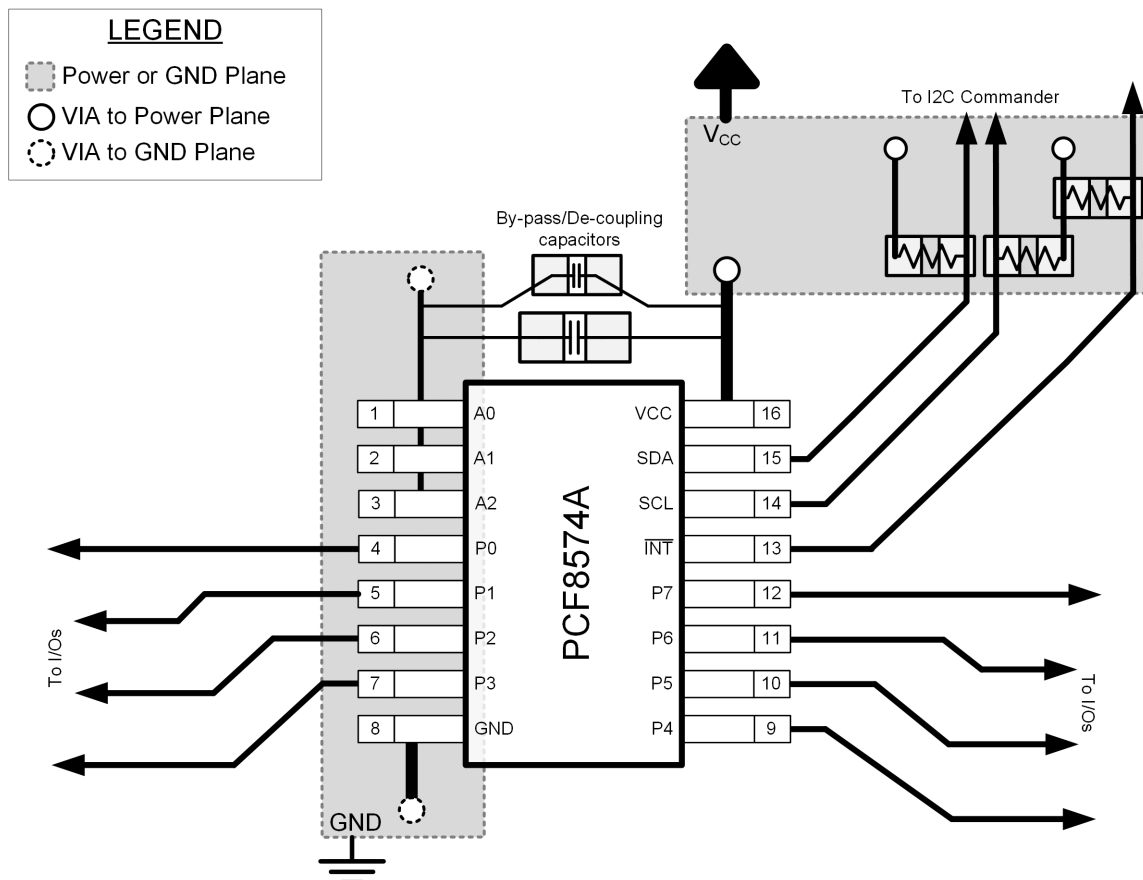

图 11-1. Layout Example for PCF8574A
When the I/Os are used to control LEDs, normally they are connected to V_{CC} through a resistor as shown in Figure 11-1. For a P-port configured as an input, I_{CC} increases as V_I becomes lower than V_{CC} . The LED is a diode, with threshold voltage V_T , and when a P-port is configured as an input the LED will be off but V_I is a V_T drop below V_{CC} .
In all PCB layouts, it is a best practice to avoid right angles in signal traces, to fan out signal traces away from each other upon leaving the vicinity of an integrated circuit (IC), and to use thicker trace widths to carry higher amounts of current that commonly pass through power and ground traces. By-pass and de-coupling capacitors are commonly used to control the voltage on the V_{CC} pin, using a larger capacitor to provide additional power in the event of a short power supply glitch and a smaller capacitor to filter out high-frequency ripple. These capacitors should be placed as close to the PCF8574A device as possible. These best practices are shown in Figure 11-1.
For the layout example provided in Figure 11-1, it would be possible to fabricate a PCB with only 2 layers by using the top layer for signal routing and the bottom layer as a split plane for power (V_{CC}) and ground (GND). However, a 4 layer board is preferable for boards with higher density signal routing. On a 4 layer PCB, it is common to route signals on the top and bottom layer, dedicate one internal layer to a ground plane, and dedicate the other internal layer to a power plane. In a board layout using planes or split planes for power and ground, vias are placed directly next to the surface mount component pad which needs to attach to V_{CC} or GND and the via is connected electrically to the internal layer or the other side of the board. Vias are also used when a signal trace needs to be routed to the opposite side of the board, but this technique is not demonstrated in Figure 11-1.